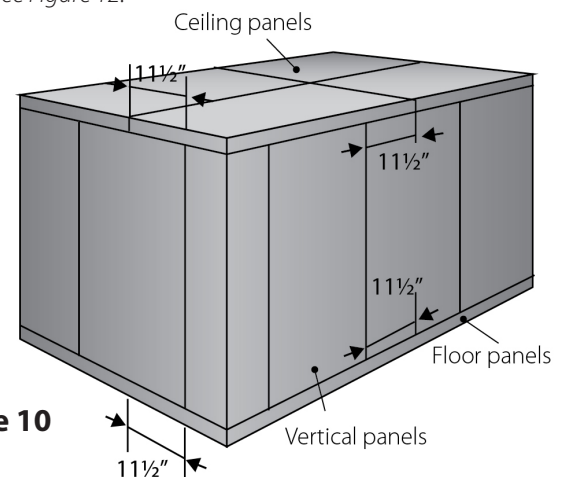

Figure 10
E. To check for correct alignment measure the distance from the edge of the ceiling or floor to the nearest vertical joint. This should be 11½" and maintained at every joint of the Walk-In. Use a staggered locking sequence as shown in Figure 6. See Figure 10.
- In large multi-compartment Walk-Ins, (three compartments or more) it is very important to control the alignment of the panels and make sure if there is any growth in the vertical panels that they are growing at the same rate as the ceiling and floors. A quick and accurate way to check for correct alignment is to measure the distance from the edge of the ceiling to the nearest vertical panel joint. This measurement must be 11½"; it must be maintained at every joint to assure proper assembly of the Walk-In. See Figure 10. In these instances we recommend that after the floors are placed and leveled that the center most partition be the starting point and to work toward either end of the box.